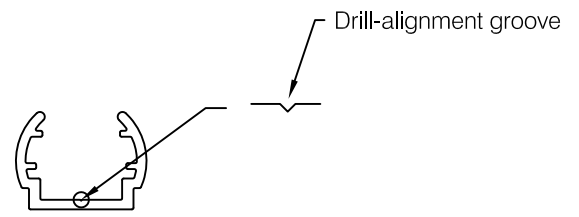

fig 2
Step 3 Layout retainer “face up”, mark and drill bracket mounting hole locations. Use groove in retainer to locate centerline for drilling, see **fig. 2**. Bracket mounting holes must be spaced: